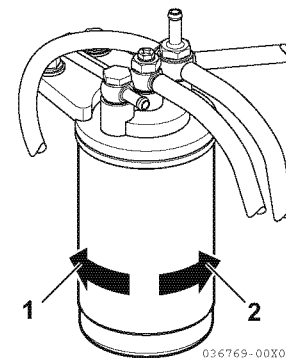

Figure 5-13
3. Remove the fuel filter with a filter wrench, turning it to the left (**Figure 5-13, (1)**). When removing the fuel filter, carefully hold it to prevent the fuel from spilling. Wipe up all spilled fuel.
5. Install the new fuel filter. Turn to the right (**Figure 5-13, (2)**) and hand-tighten it only until it comes in contact with the mounting surface. Tighten to 20 - 24 N·m (2.0 - 2.4 kgf·m) or one additional turn using the filter wrench.